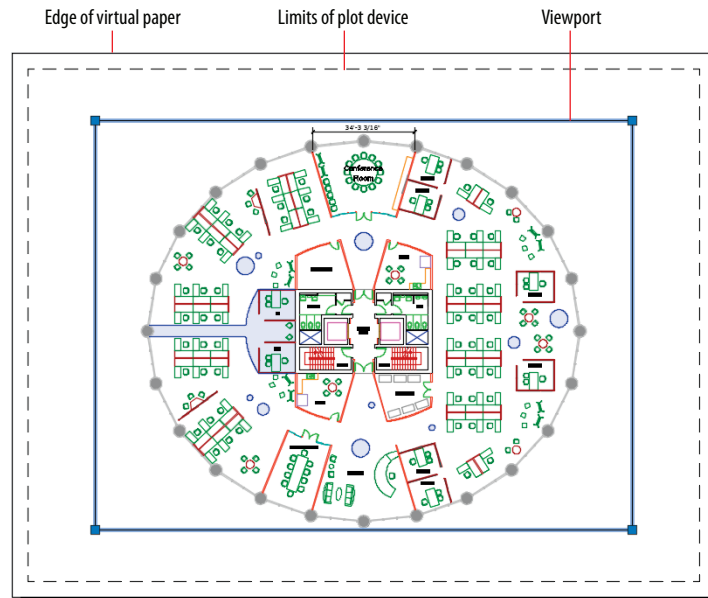

FIGURE 13.11 Viewing a layout in paper space
- The image in the drawing canvas changes as you enter paper space. A white representation of paper is displayed with an automatically created viewport through which you can see the drawing in model space. The viewport object is on the Z-Viewport layer. The dashed lines indicate the limits of the plotting device's printable area. Make a crossing selection across the entire layout—only the viewport is selected because there is only one object currently in paper space (see Figure 13.11). Press Esc.